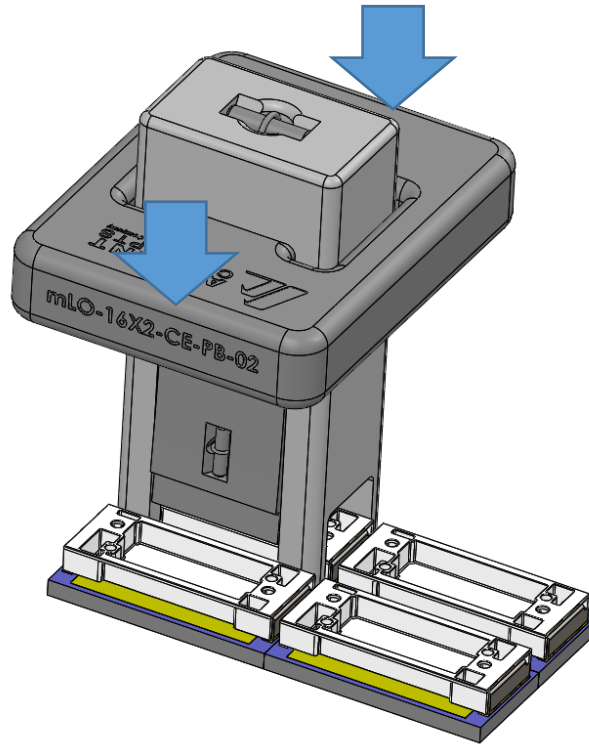

FIGURE 9: Using carrier extraction tool, part number mLO-16X2-CE-02
Step 1: Seat the carrier extraction tool, part number mLO-16X2-CE-02, on top of first carrier in the array. See **Figure 9**.